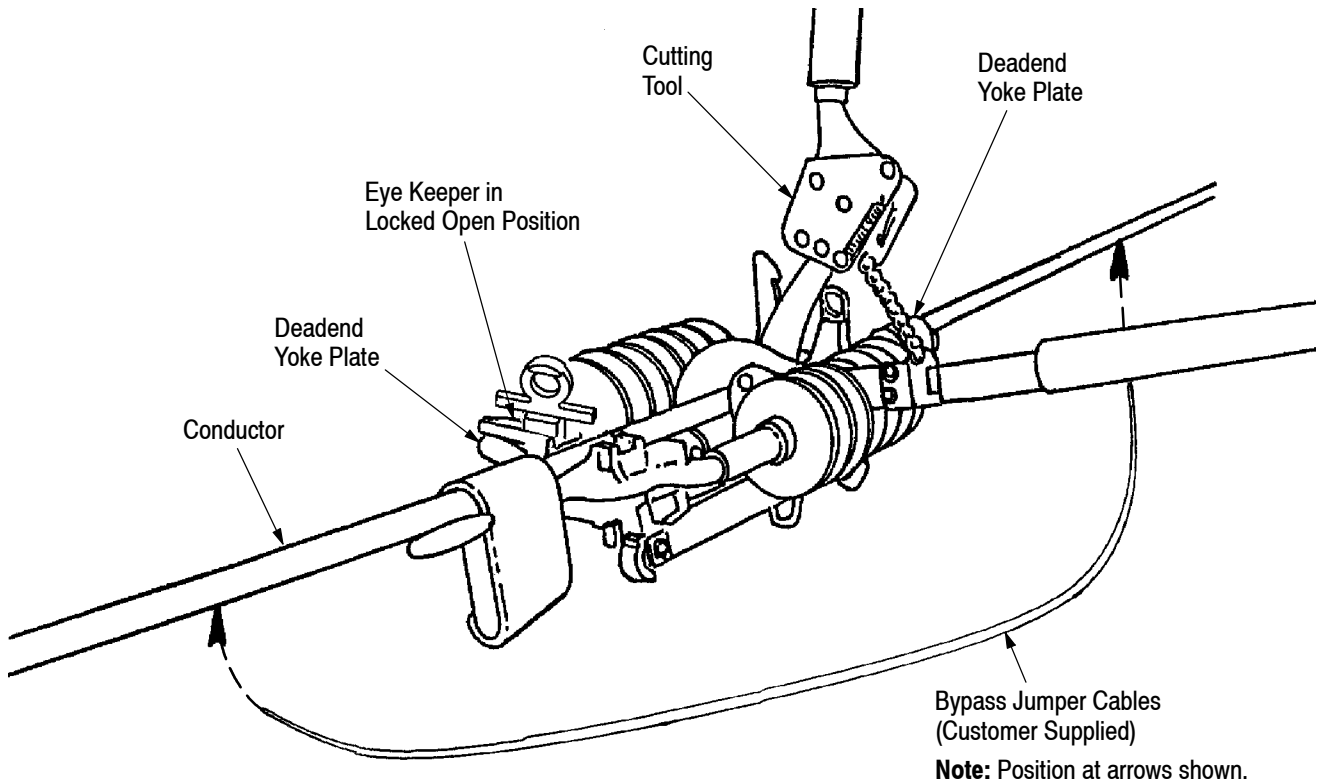

Figure 7
6. Pull and pivot the eye keepers 180° to the locked open position. See Figure 7.
1. Install bypass jumper cables per approved company practices. Refer to Figure 7.
2. Cut the conductor, using the appropriate cutting tool, between the deadend yoke plates. Refer to Figure 7.